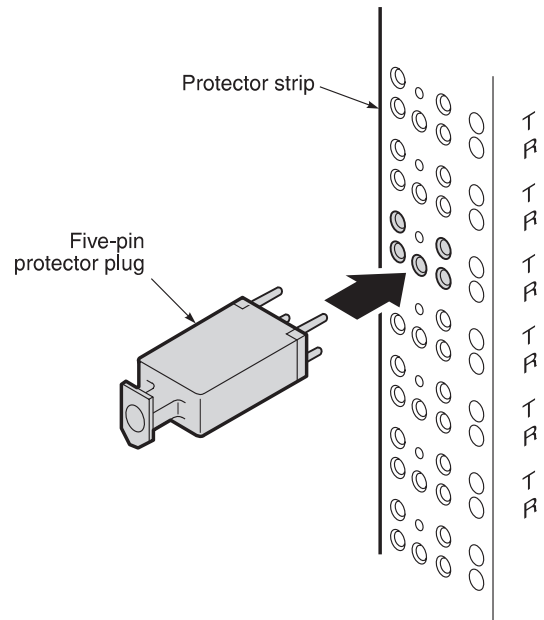

Figure 6. Installing Five-Pin Protector Plugs
- 8.6 Protector Plugs.** For the FRE-765 List 5A, install five-pin protector plugs into the protector strips for each subscriber line installed (Figure 6). See Table 7 for protector socket locations.